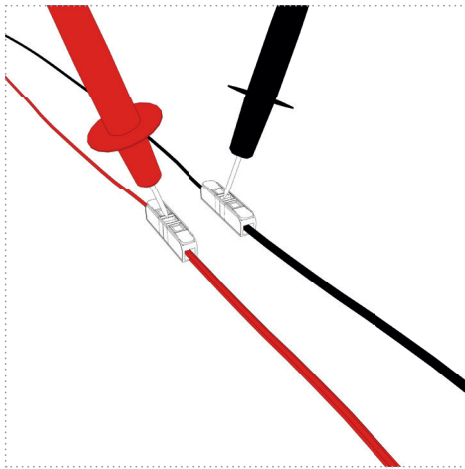

Figure 20
4. Plug/turn the fuse of the UV unit's circuit back in and check for correct mains voltage at the test openings of the connection terminals (Figure 20).